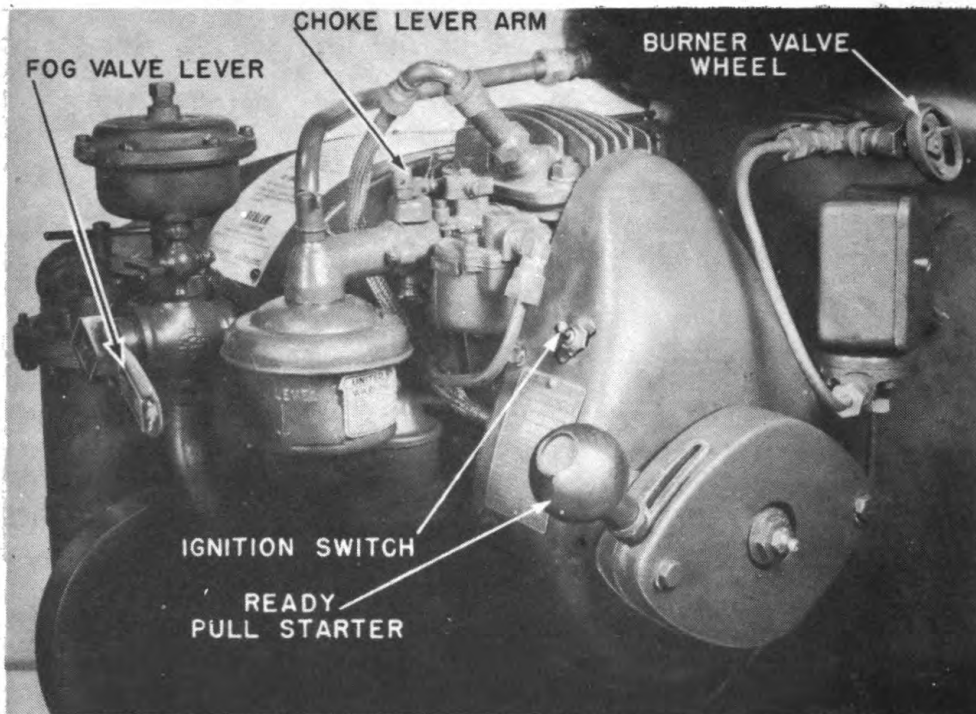

Fig 20. Operating controls.
a. General. Operating controls are the devices which the operator manipulates to start or stop generator. There are five: the choke lever arm, ignition switch, ready pull-starter, burner valve, and the fog valve. Location of controls is shown in figure 20.
f. Fog valve. The fog valve lever is located at juncture of fog oil and water lines. It opens and closes the fog valve, thus permitting or preventing flow of fog oil to pump. Push lever DOWN to vertical (ON) position to open valve, push UP to horizontal (OFF) position, in which it is shown in figure 20, to close valve. The words "ON" and "OFF" appear on lever, and a stamped arrow shows in which direction it should be moved.